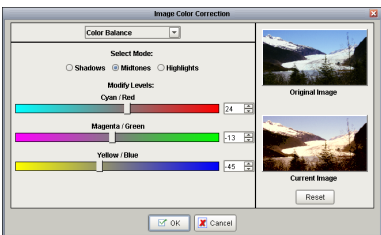

Figure 4—Image Color Correction
- **Color Management**—this option modifies the color of your image using the Image Color Correction tool. To open the Image Color Correction tool (see Figure 4), highlight your image and click the **Basic Adjustments** button. Click the appropriate color to adjust your image. The preview windows by each color show what the image will look like if you choose to add more of that color. You can modify brightness, contrast, and saturation using the appropriate buttons along the bottom of the screen.